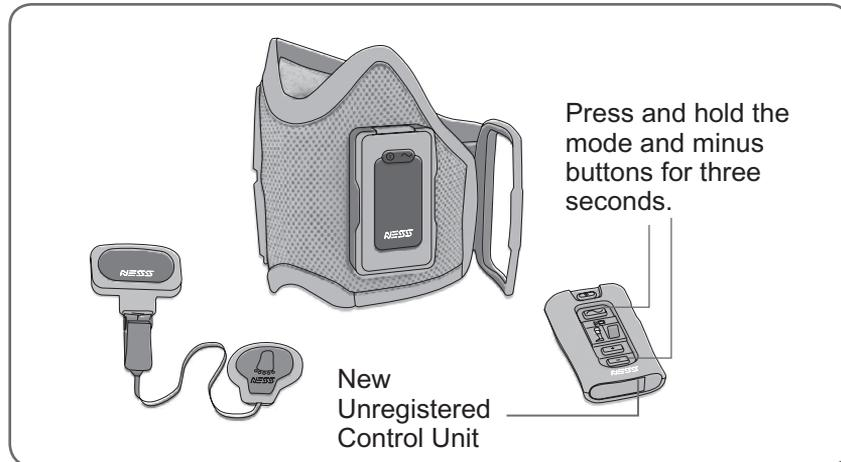

Figure 34: Registering a new Control Unit.
2. Simultaneously press and hold for three seconds the  mode and  minus buttons. See Figure 34. The Control Unit will beep when registration begins.